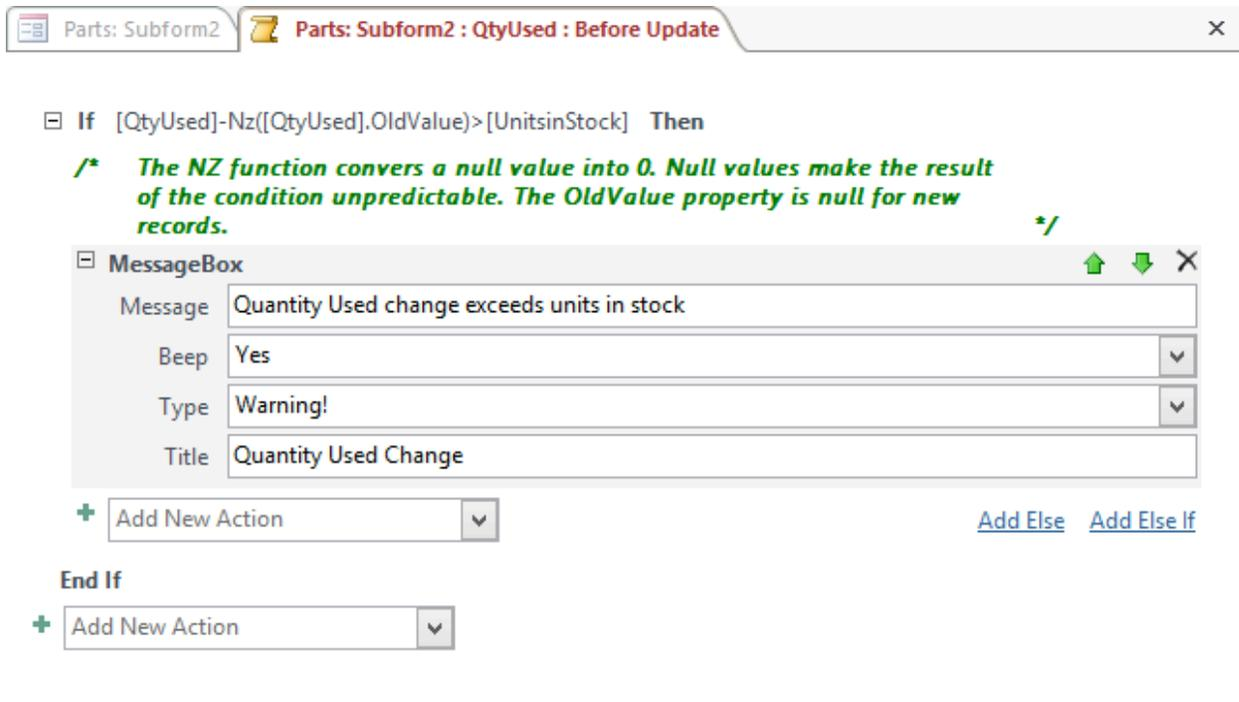

Figure 40: *MsgBox* Action Specified for the If Action
- Figure 40 shows the completed *MessageBox* action with parameters.